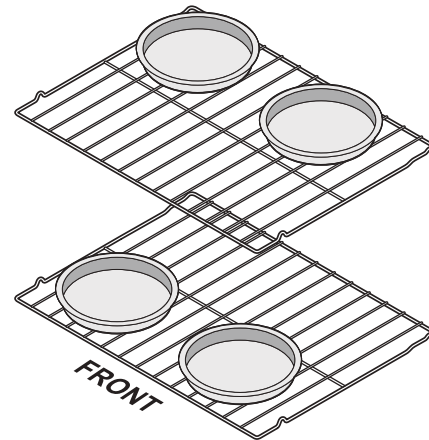

Figure 21: Pan placement for convection baking
- When baking cakes using two oven racks place bakeware in positions 3 and 5 and place bakeware as shown in Figure 21.